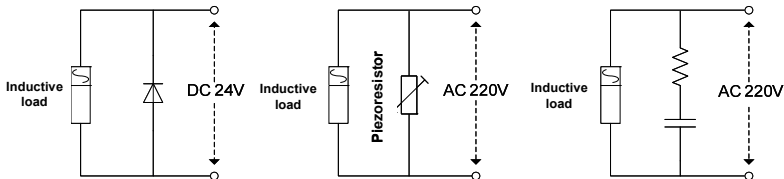

Figure 3-4 Application of inductive load surge suppressor
- ◆ When the inverter is connected to the inductive load equipment (e.g. electromagnetic contactor, relay and solenoid valve), surge suppressor must be installed on the load equipment coil, as shown in Figure 3-4.